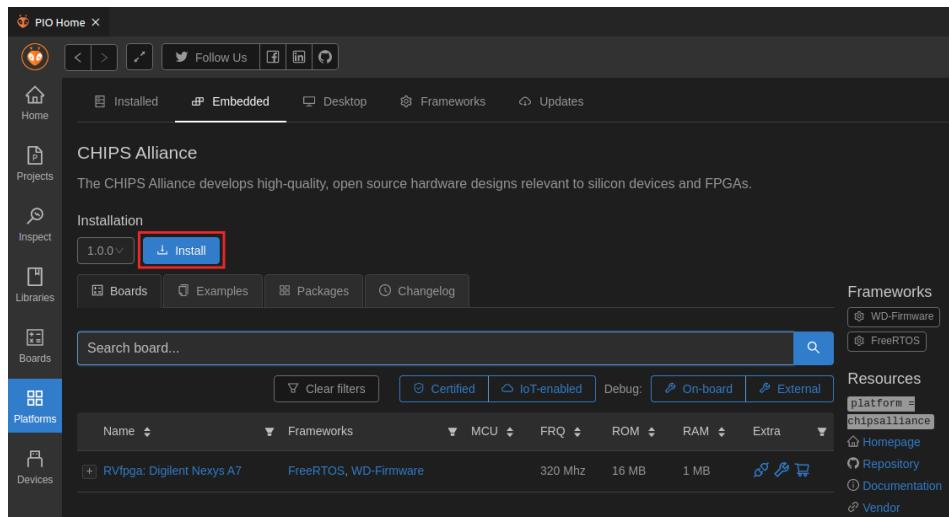

Figure 42. Installing the CHIPS Alliance Platform
- After clicking on the  button, you will see the details of the Chips Alliance platform (as in Figure 42). Install it by clicking on the  button (Figure 42).